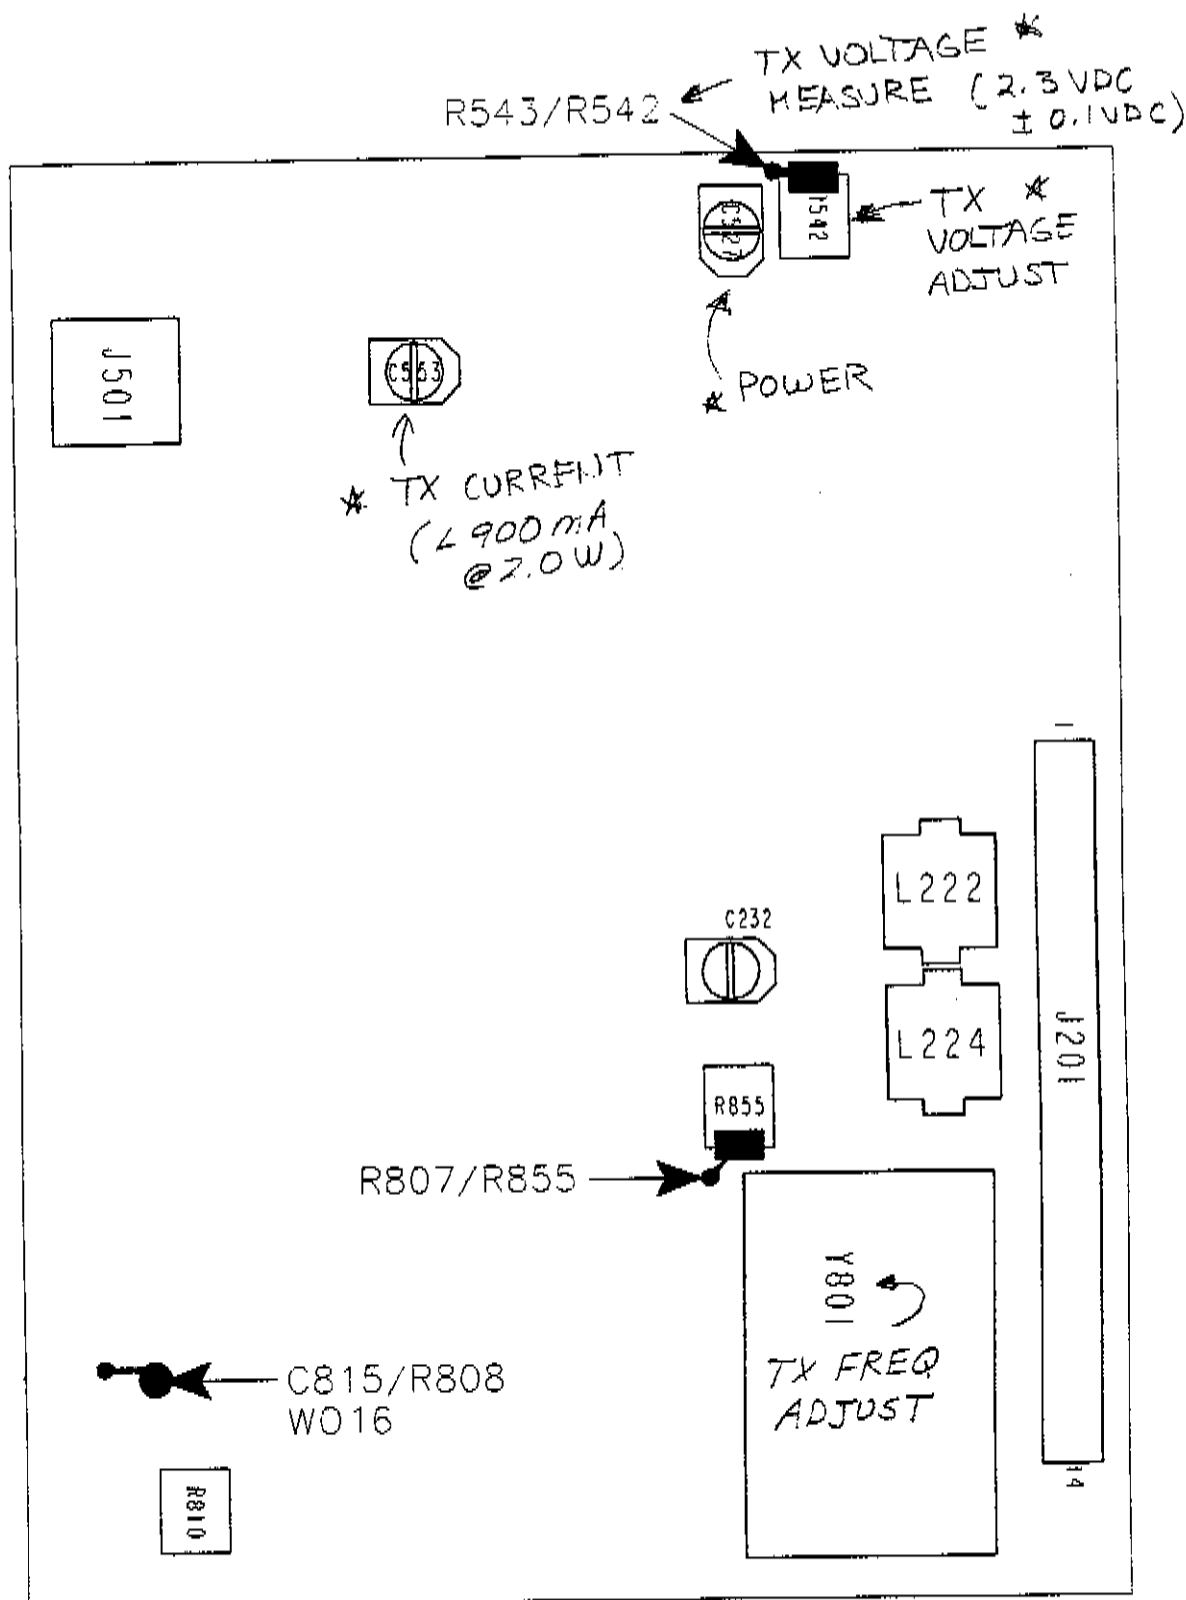

Figure 6-3 ALIGNMENT POINTS DIAGRAM
Receiver or transmitter alignment may be necessary if repairs are made that could affect tuning. Alignment points diagrams are located in Figure 6-3 or component layouts are located in Section 8.
3. Connect a DC voltmeter at the junction of R808/C815 to measure the VCO control line voltage for a meter reading of $\geq 0.50 - \leq 4.90$ V DC (see Figure 6-3).